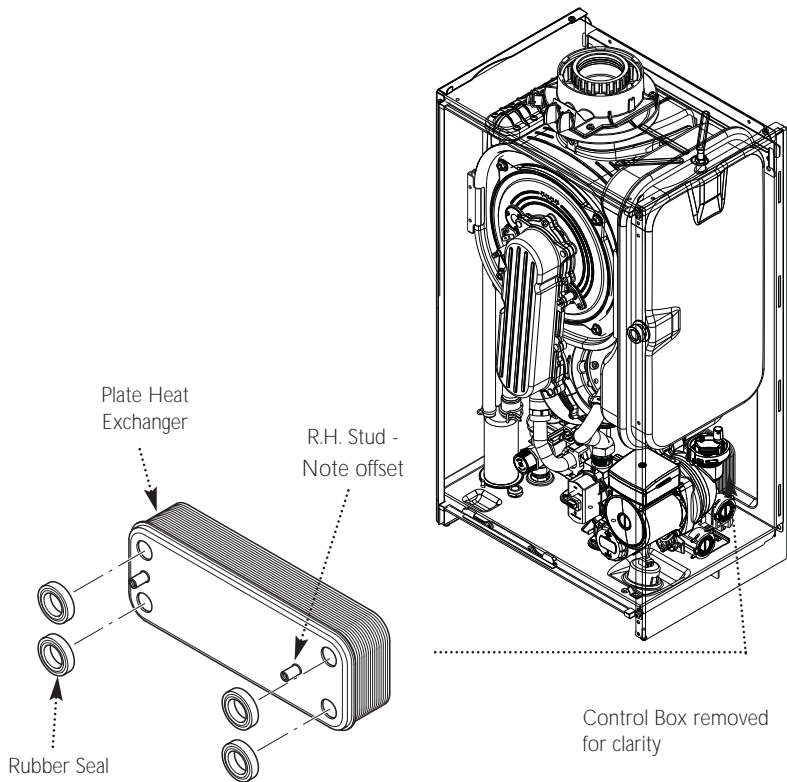

Fig. 62
13.15 Plate Heat Exchanger (Fig. 62)
7. When fitting the new heat exchanger note that the right hand location stud is offset towards the centre (Fig. 62).